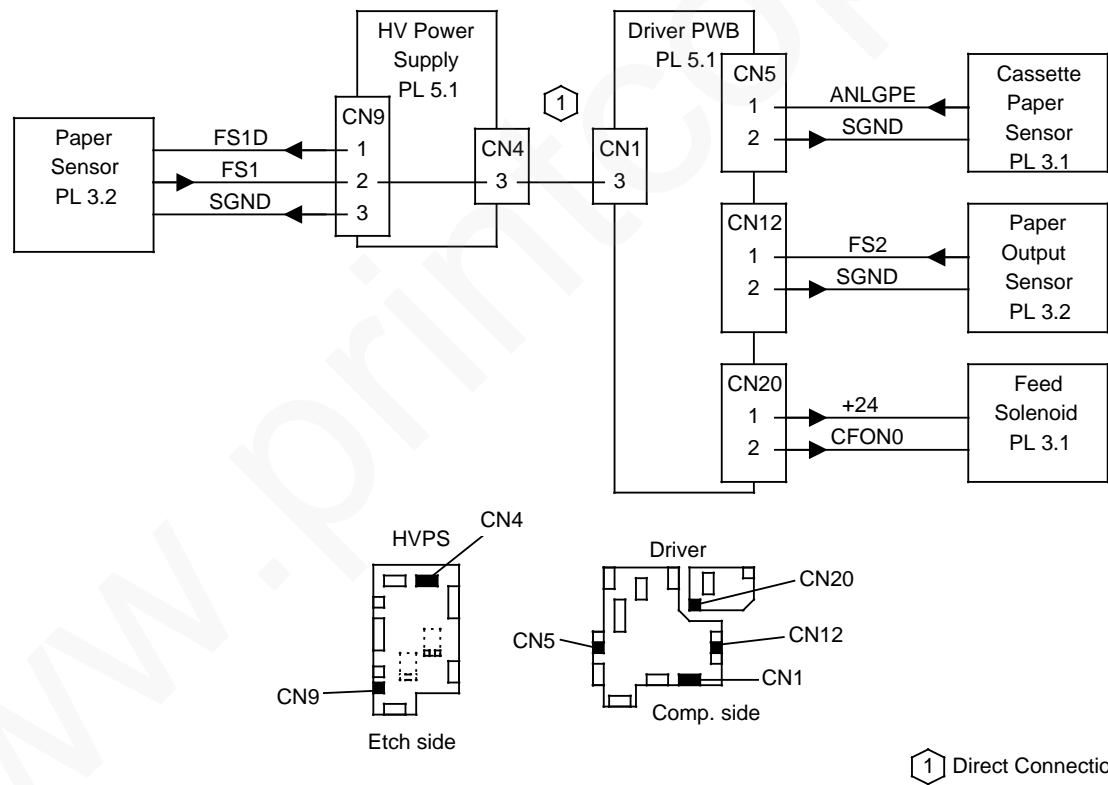

Figure 1. Printer Sensors and Solenoid
- 100 to 150 ohms (Figure 1)**Y N**